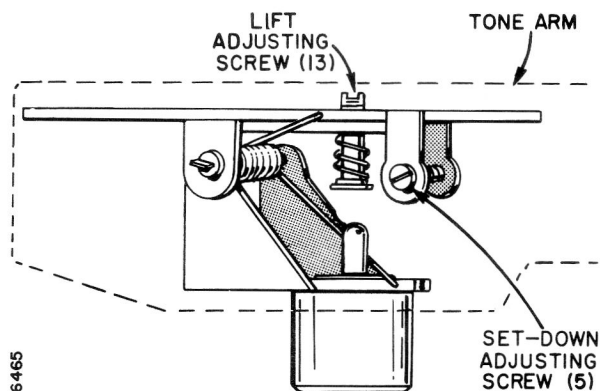

Figure 5. Set-Down and Lift Adjustments.
The set-down adjustment may be made while the changer is in its compartment or cabinet. Adjustment of the set-down point is made by adjusting the set-down adjusting screw (5). See figure 5. The tone arm will automatically set down properly on 7-inch or 12-inch records if the set-
to pass above a stack of 12 standard 10", 78 RPM records on the turntable, turn the lift adjusting screw clockwise. See figures 5 and 6.